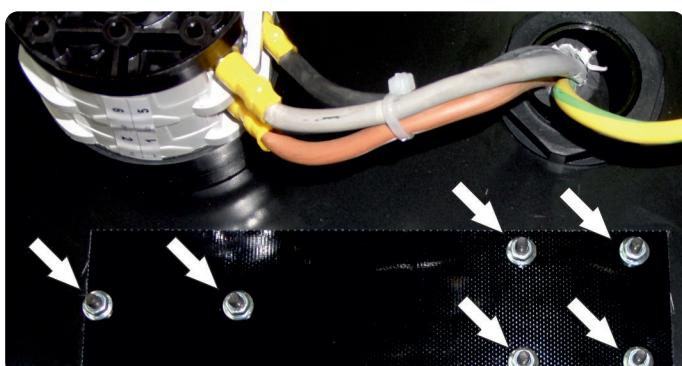

Fig. 3
- ◆ Remove the plate located on the rear panel and fixed to it with 6 M3 screws and relative nuts indicated in fig.3